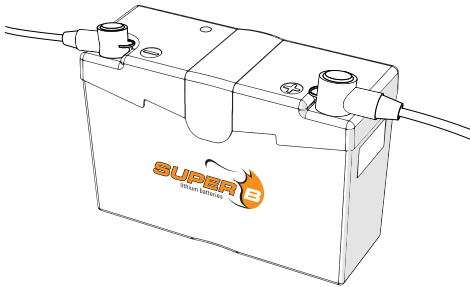

Figure 4. Place terminal covers over the terminals.
4. Place the terminal covers over the terminals (Figure 4).